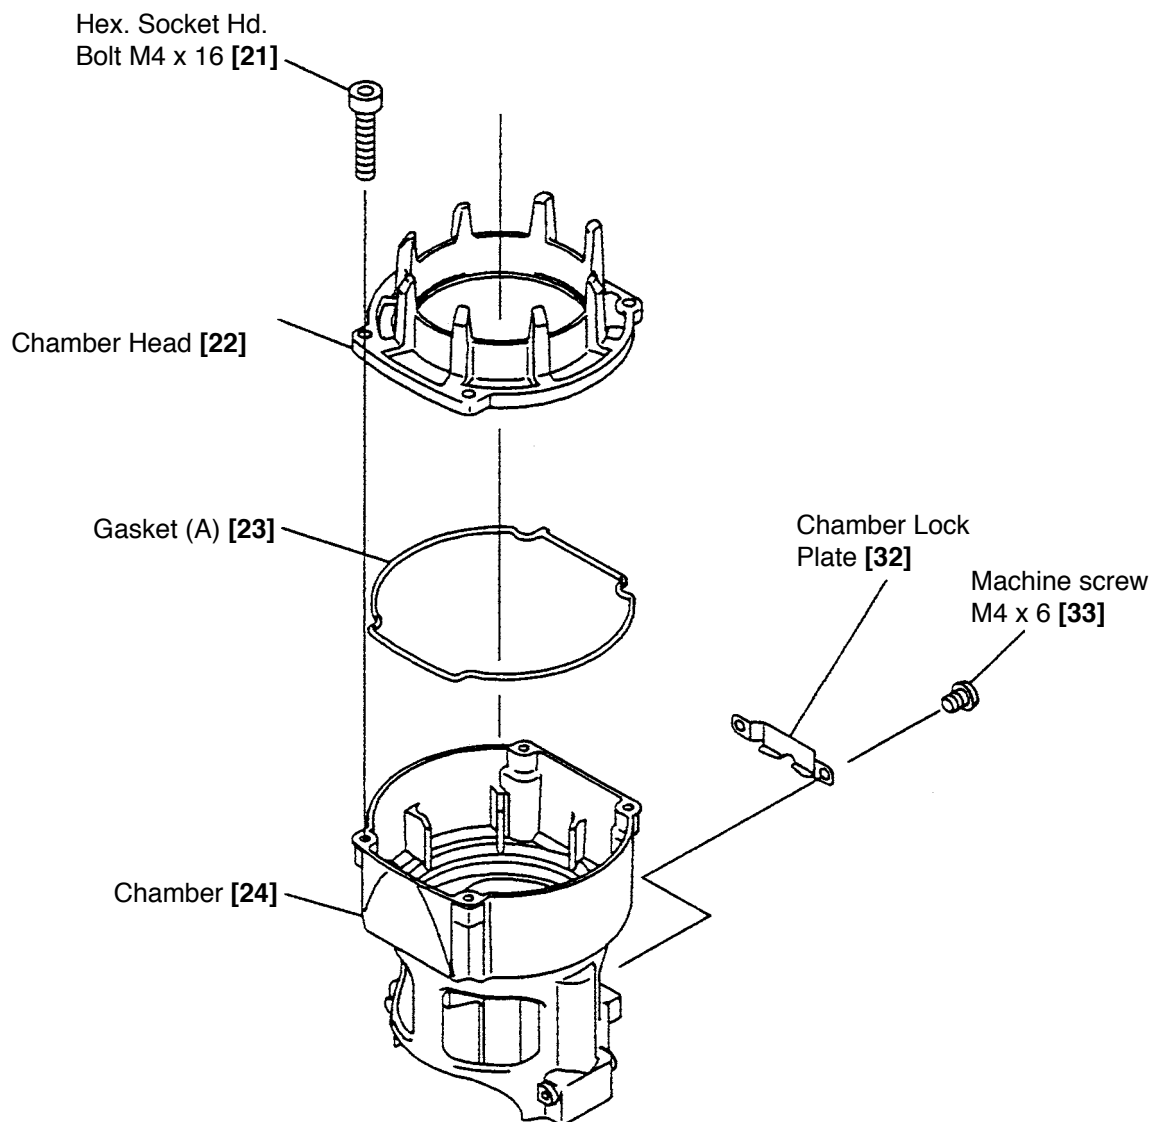

Fig. 47
(3) Disassembly and reassembly of Chamber [24] and the related parts (Fig. 47)